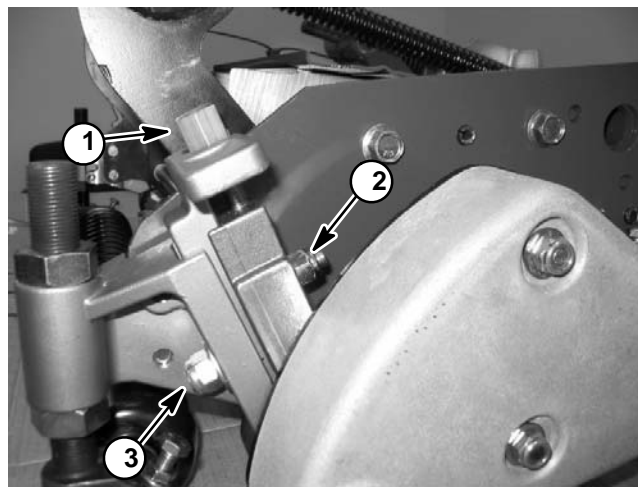

Figure 1
Cutting unit models 03860, 03861, and 03862 can be installed at any of the five mounting locations on the traction unit. Figure 1 shows the orientation of the hydraulic drive motor for each of the five locations. For any of the locations requiring the motor to be mounted on the right end of the cutting unit, install a counter weight on the left end of the cutting unit. For the locations requiring the motor to be mounted on the left end, install a counter weight on the right end of the cutting unit.
3. Loosen two (2) height adjustment lock nuts that retain groomer height adjustment (Fig. 1).
4. On one end of the groomer reel, measure the distance from the lowest tip of the groomer blade to the working surface. Turn height adjustment screw to raise or lower the groomer blade tip to the desired height (Fig. 1).
6. Tighten two (2) lock nuts to secure groomer height adjustment (Fig. 1).
Note: If grooming operation is not desired, loosen lock nuts on front of HOC assembly (Fig. 1), fully raise groomer and tighten lock nuts to secure groomer in raised position. To resume grooming operation, loosen lock nuts on front of HOC assembly, fully lower groomer and tighten lock nuts.